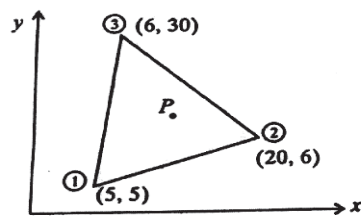

fig. 2a
**Q2) a)** For the triangular element fig. 2a defined by nodes 1:(5,5), 2:(20,6), 3:(6,30), obtain the strain displacement relation matrix B and determine the strains  $\epsilon_x, \epsilon_y, \gamma_{xy}$ . **[15]**